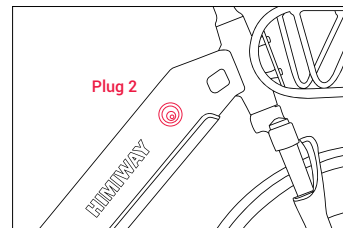

Figure 9
Step 3: Remove the rubber cover on the charging socket and insert the DC plug (Plug 2) of the charger into the battery charging socket (fig. 9).